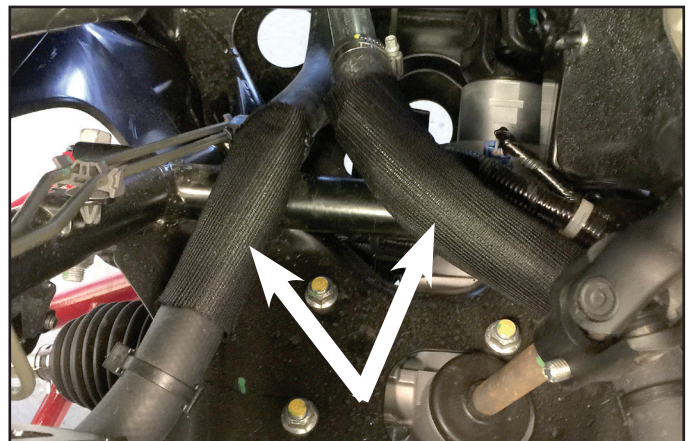

Figure 2
3. In the kit, find the black split line sleeve. Using Scissors, cut this into two equal halves. Install these on the two coolant hoses at the bottom of the opening under the hood. These are for extra protection between the hoses and the new shield. See Fig 2